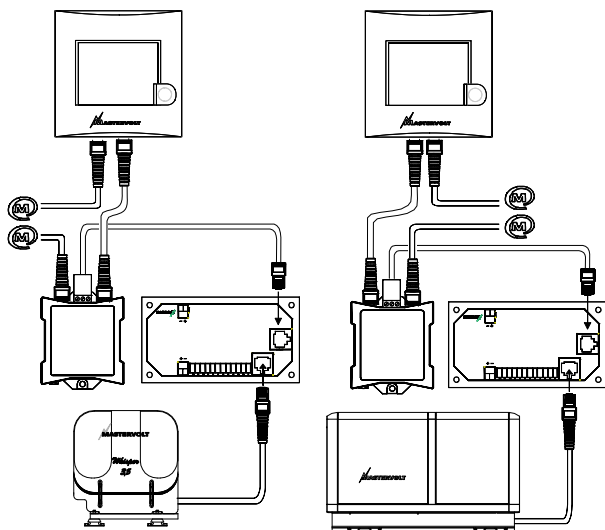

Figure 18:
- The easiest way is by setting up two independent *MasterBus* networks where each generator set is connected to its own *MasterBus* remote control panel by its own *MasterBus* network. See figure 18. In this way no additional settings are required.